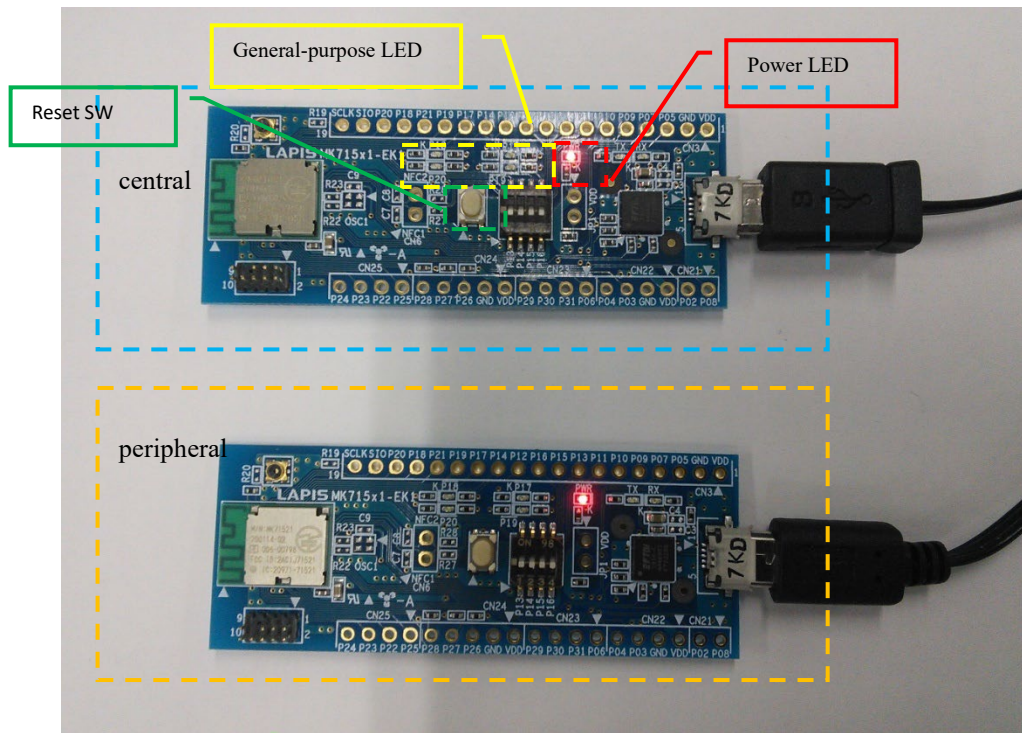

Fig. 2-1 Connection distance measurement board
- (1) Connect MK71521EK1 to PC with USB cable. (Fig. 2-1)